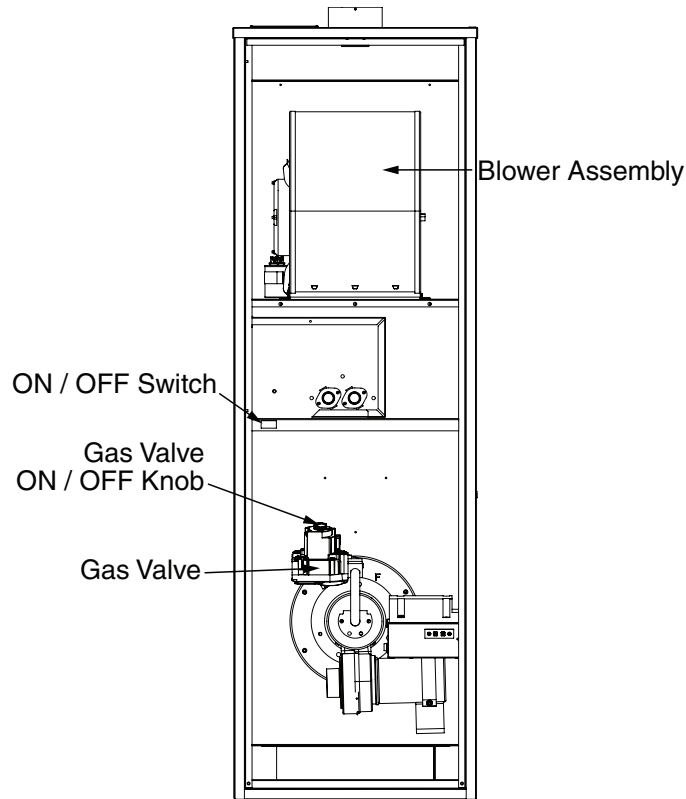

Figure 3. CMF3 Gas Furnace Components
2. Is the On/OFF switch (inside the blower compartment) turned on? See Figure 3, \(page 6\).
The furnace components shown in Figure 3 will help identify and locate various parts of the furnace. The component you need to familiarize yourself with is the gas valve. You will use this to turn the furnace on and off. There are no user serviceable parts. All repairs must be done by a licensed HVAC technician.